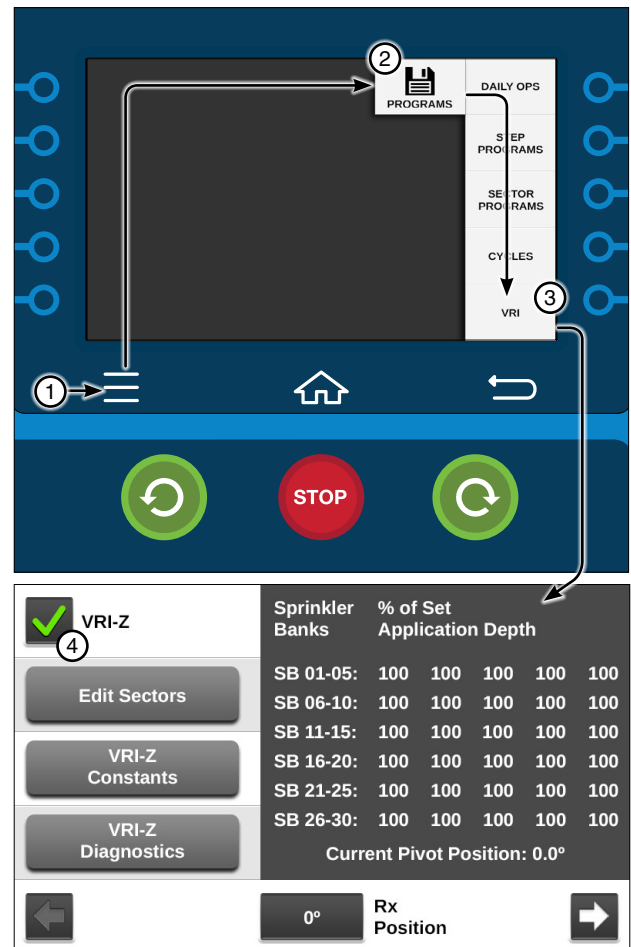

Figure 163-1 1. Menu 2. Programs 3. VRI 4. VRI-Z Checkbox
1. Push **Menu**, **Programs**, and **VRI** to display the VRI-Z screen. Refer to Figure 163-1.